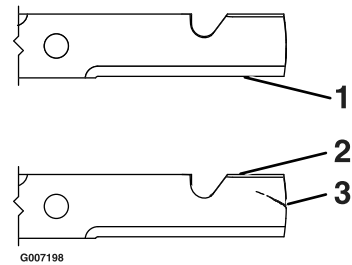

Figure 38
1. Inspect the cutting edges (Figure 38). If the edges are not sharp or have nicks, remove and sharpen the blades; refer to the Sharpening the Blades section.
2. Inspect the blades, especially the curved area. If you notice any damage, wear, or a slot forming in this area (item 3 in Figure 38), immediately install a new blade.